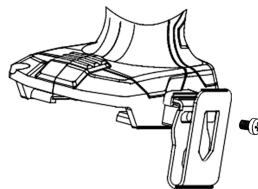

FIGURE 2.
1. Insert the belt clip's curved flange into the open slot on the drill base (Fig. 2). The clip opening faces upward.